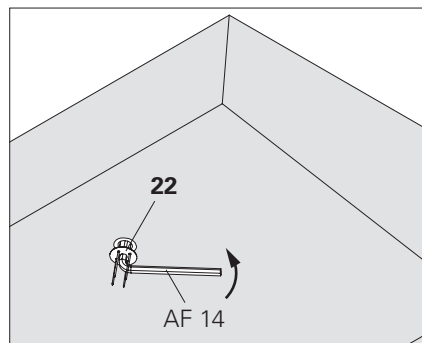

Fig. B1.01
3. Unscrew Anchor Positioning Stud M24 (**22**) from the anchor sleeve by means of an Allen key AF 14. (Fig. B1.01)